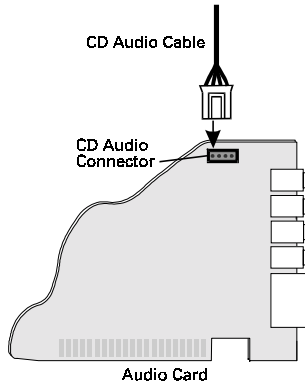

Figure 2-22: Connecting the CD audio cable to the audio card.
4. If you have an audio card installed in your system, connect the audio cable to the CD Audio Connector on the audio card as shown in CD Figure 2-22.